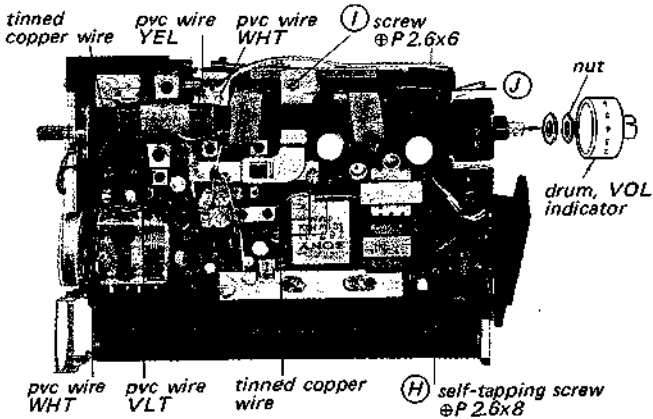
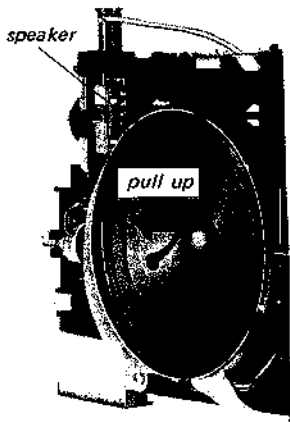

Fig. 2-5.
Fig. 2-6.
2. Unsolder the wires shown in Fig. 2-5.
3. Remove the two screws labeled (H) in Fig. 2-5.
4. Remove the screw labeled (I) and the plate labeled (J).
5. Remove the speaker as shown in Fig. 2-6 and unsolder the two speaker leads.